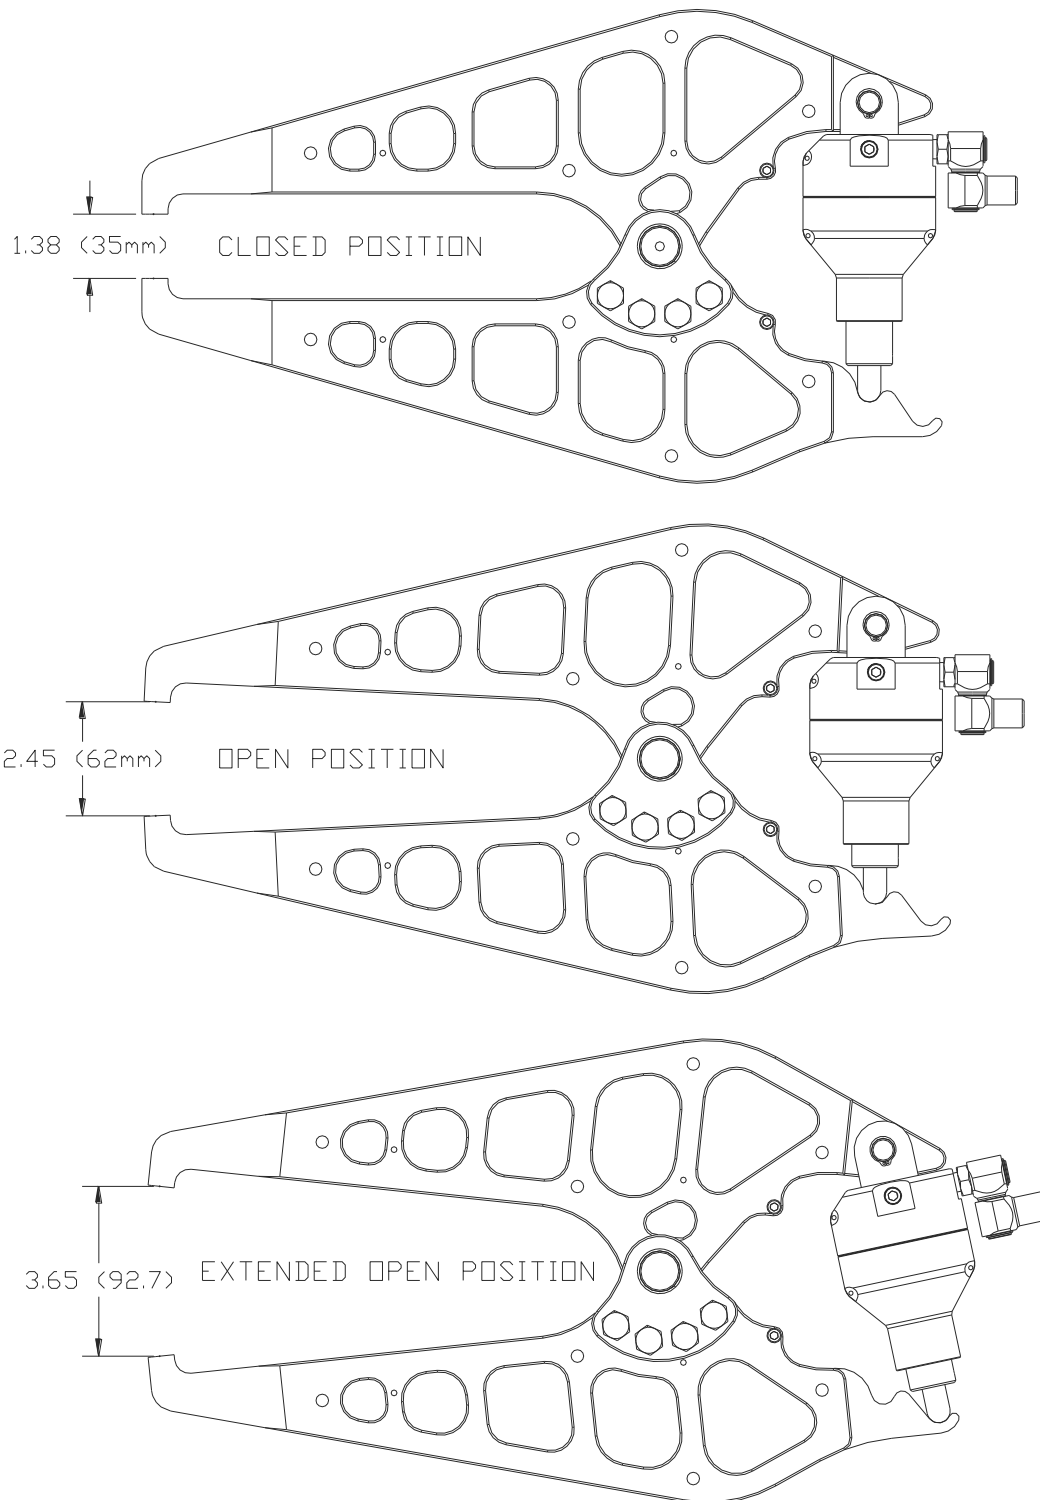
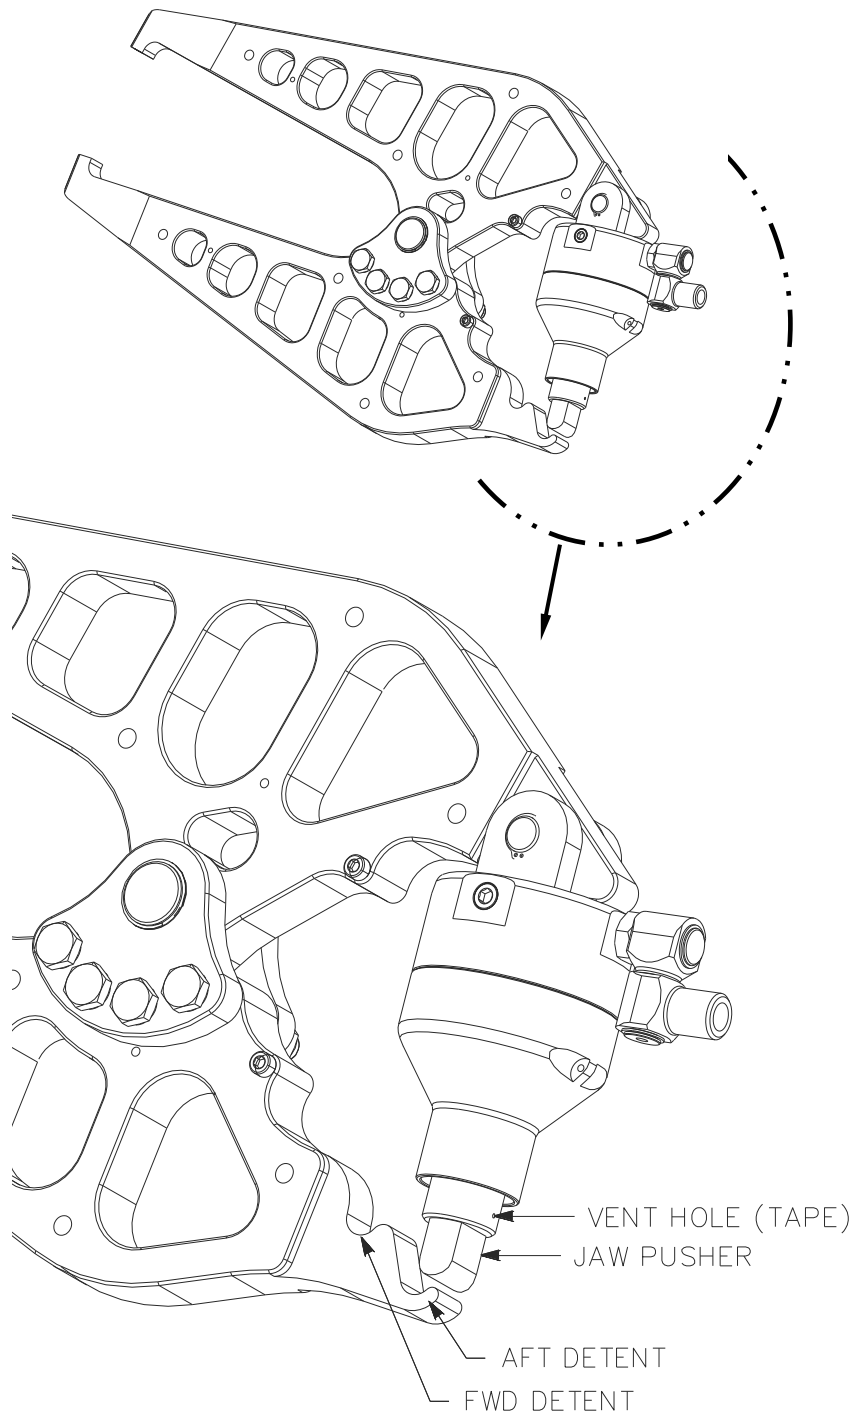

FIGURE 3 – NXA-10 OPERATING POSITIONS
FIGURE 4 – JAW DETENTS
- 5.2 The NXA alligator squeezer has three (3) operating positions, as shown in Figure 3. These figures are with no rivet dies installed, which will vary in length. The normal position, with no hydraulic pressure applied to the squeezer, is the “Open Position”. With hydraulic pressure applied, the jaw tips close to the “Closed Position” distance shown in Figure 3. For additional jaw tip clearance, the squeezer jaws can be moved to an “Extended Open Position”. To accomplish this, slightly close the jaws while in the Open Position, and rotate the cylinder aft, so that the cylinder jaw pusher is located against the aft detent, shown in Figure 4. **DO NOT** attempt to operate the squeezer while the jaws are in the Extended Open Position, as damage to the squeezer may occur. Return the jaws to the “Open Position” prior to squeezing a rivet.
- 5.4 The jaw pusher is installed on the tip of the hydraulic actuator piston shaft, and retained with grease (Figure 4). A small vent hole is taped closed to produce a suction force to retain the pusher on the shaft. The pusher can be removed for service of the actuator.